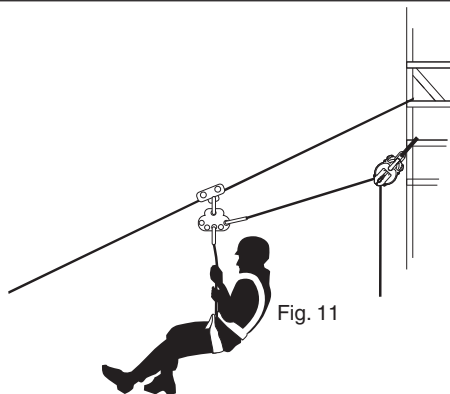

Fig. 11
7.3 Voluntary evacuation on an inclined surface (Fig.11)